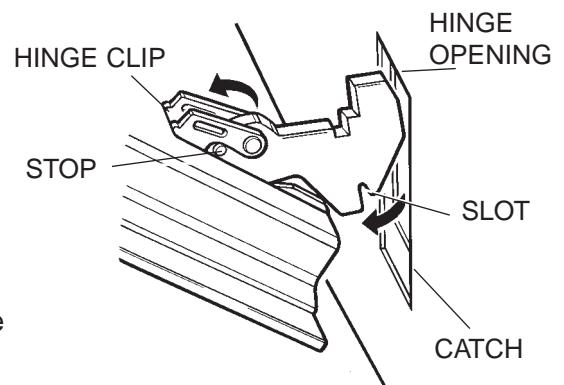

Figure 22 - removing the oven door
2. Raise one hinge clip and rotate it towards you as far as the stop (Figure 22). Repeat the procedure with the second hinge clip on the other side of the door.